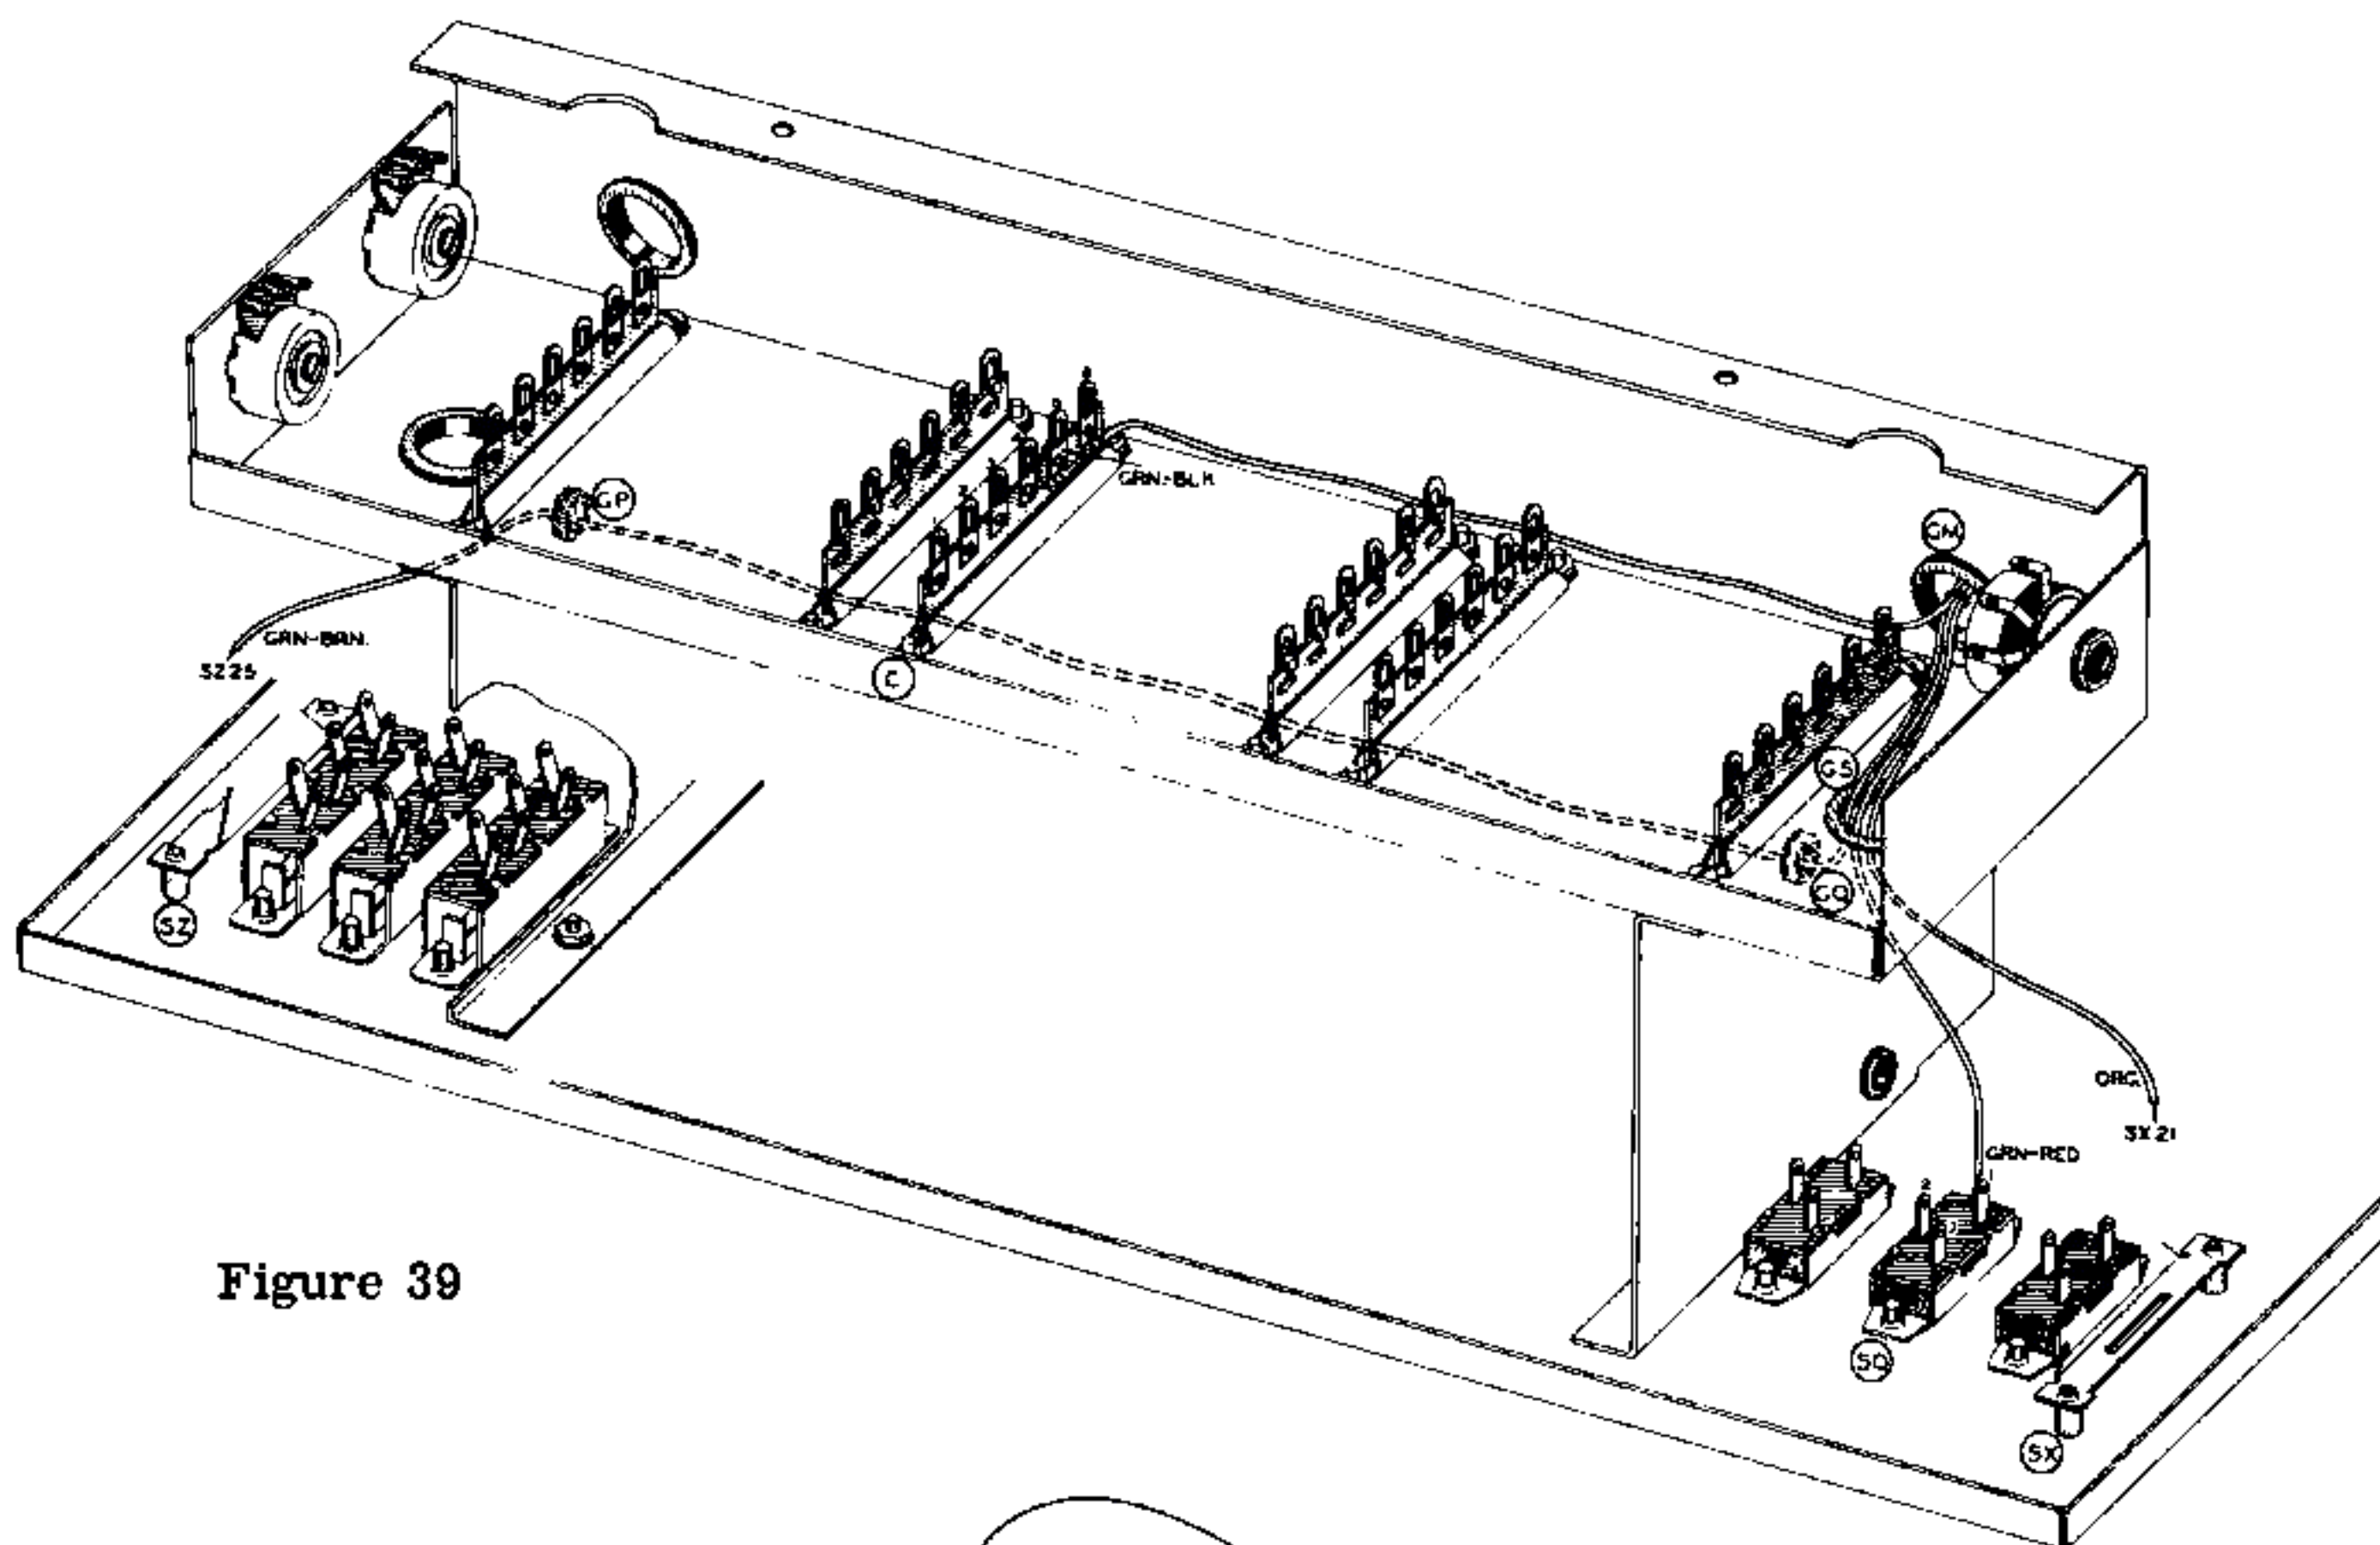

Figure 39
( ) On the subchassis, pass all leads, except green-black, through GS. Connect the green-black lead to C5 (NS). See Figure 39.